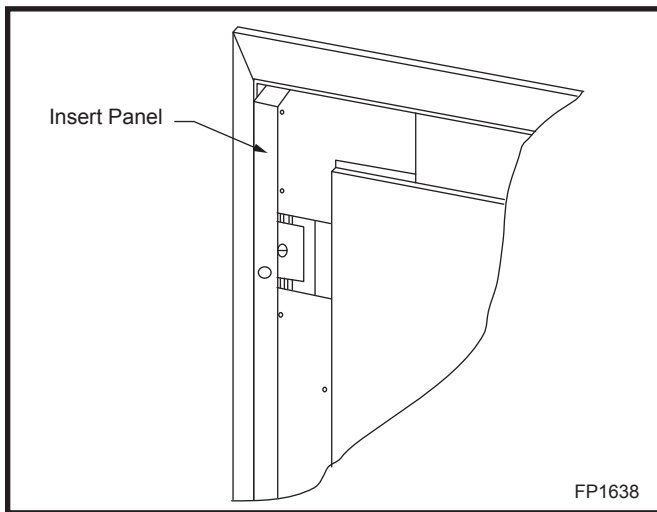

Fig. 3 Place insert panels on either side of trim.
3. Place the insert panel on either side as shown in Figure 3. Secure each panel using two (2) short screws. The screws fit into slots in the trim. A medium #2 Phillips screwdriver is recommended.